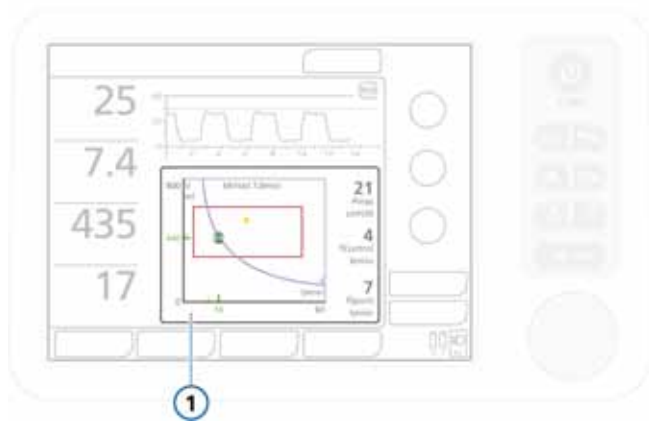

Figure 8-8. ASV target graphics window (1)
- The ASV target graphic is displayed (Figure 8-8).